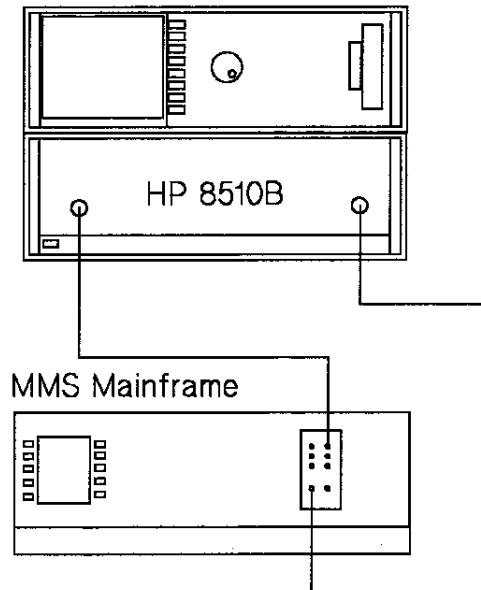

Figure 4-2. Reflection and Insertion Loss Test Setup
1. Connect the equipment as shown in Figure 4-2.